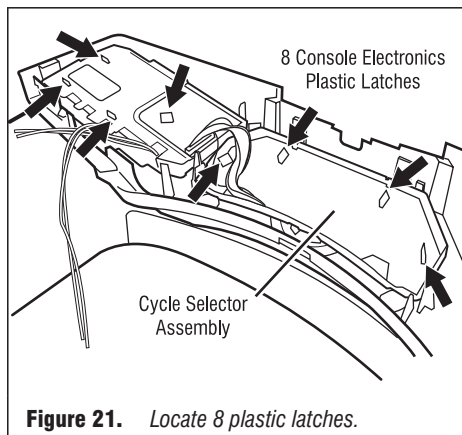

Figure 21. Locate 8 plastic latches.
6. The console electronics is split into two assemblies connected by two cables. Each assembly is fastened to the decorative piece by four plastic latches. To remove these assemblies, gently compress the plastic latches while pulling up on the assembly. For the cycle selector assembly, the cycle selector knob must first be removed by firmly pulling on it or gently prying it straight upward. See figure 21.